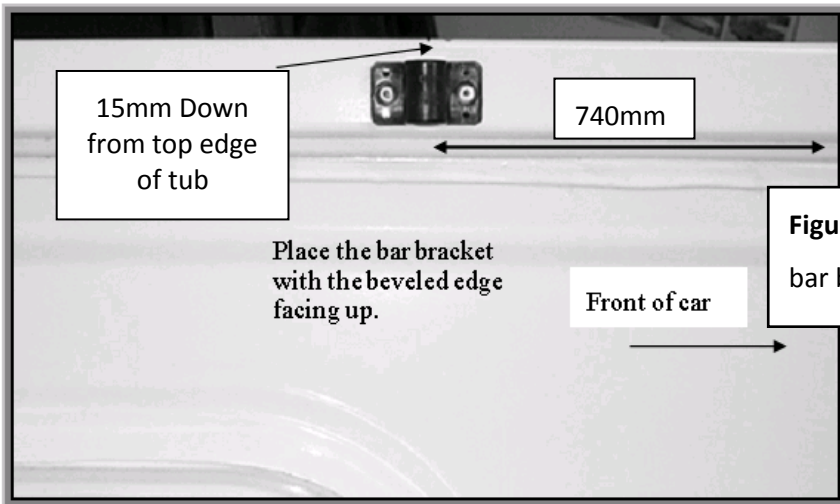

Figure 2: Placement of bar bracket
6. To fit the bar brackets, measure 740mm back from the inside front edge at the top of the tub and place them as shown in **Figure 2**. (15mm down from top edge of tub) Drill and rivet using two large rivets for each Bar Bracket. Install the support bar according to the supplied instructions.